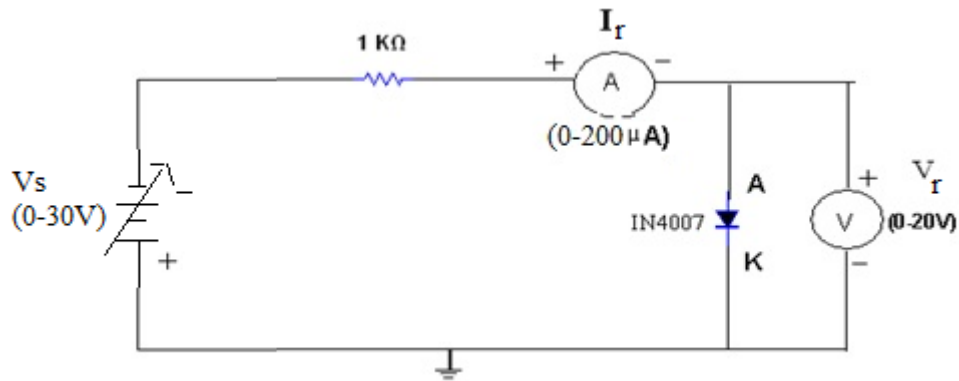

Fig 2.5: Circuit Diagram of P-N Junction Diode for Reverse Bias
- Connect the circuit as shown in fig 2.5 using silicon PN Junction diode.